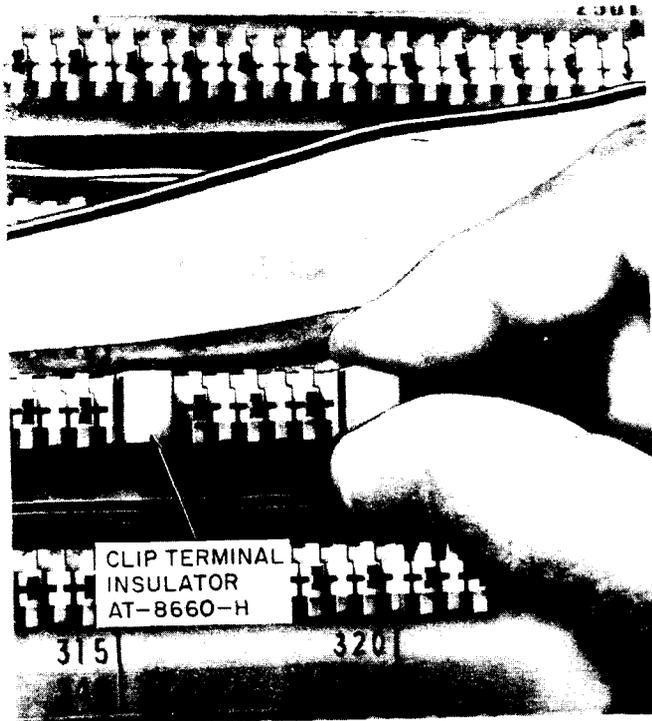

Fig. 14—Placing Clip Terminal Insulator for Special Circuit Identification —108-Type Connectors
7.01 When cable pairs are used for special service, it will be necessary to identify the circuits by placing an H clip terminal insulator (AT-8660-H) over the pair at the feeder and distribution terminal as shown in Fig. 14.